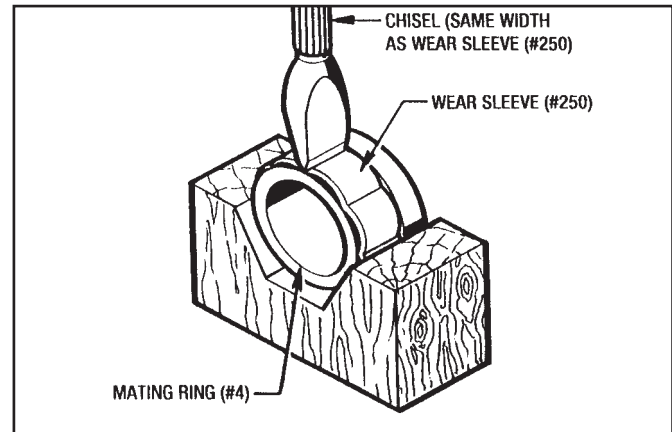

Figure 7.3 - Wear Sleeve Removal (#20 Posidyne Only)
2. With a chisel the same width as the Wear Sleeve (#250) make about 5 or 6 notches in the Wear Sleeve, as shown in Figure 7.3. It can now be removed from the Mating Ring by hand.
- Remove (6) Screws (#63) and remove the Bearing Retainer (#7) taking care not to damage the lip of the Oil Seal (#31).
- Use the same procedure as described in **Section 7-8 WEAR SLEEVE REMOVAL PROCEDURE** (Figure 7.3) to remove the Wear Sleeve (#250) from the Mating Ring (#4).